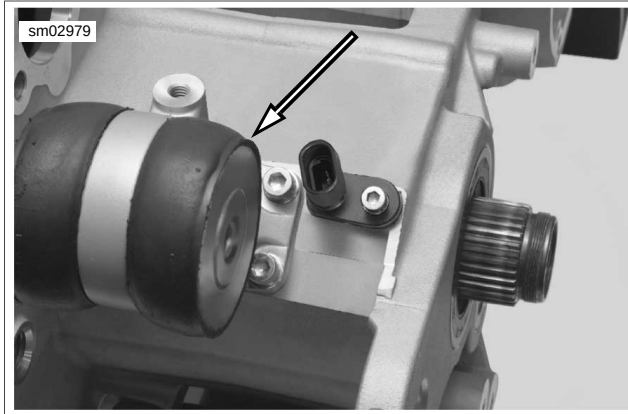

Figure 3-25. Rear Isolator Assembly
1. See Figure 3-25. Install rear isolator assembly by installing the two rear fasteners first and then the two forward fasteners (re-install with **new** fasteners). Tighten to 25-27 ft-lbs (33.9-36.6 Nm).